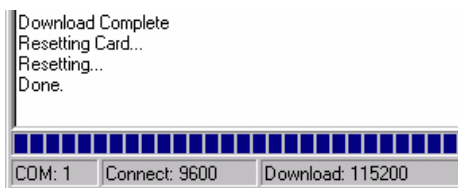

Figure 33: Update Process Complete
- The receiver should finish downloading and reset. The process is complete when "Done." is displayed in the main display area, see *Figure 33*.